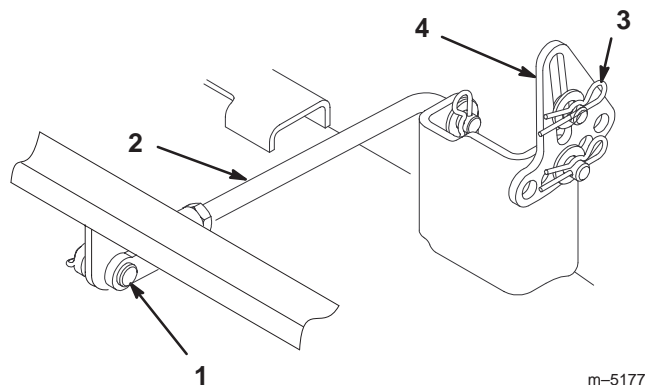

Figure 46
4. Remove the hairpin cotter and clevis pin from the rear trunion rod (Fig. 46) on each side of the mower.
5. Remove the hairpin cotter and washer at the mower leveling brackets (Fig. 46) on each side of the mower. Note which hole the leveling bracket is mounted in for future installation. Slide the brackets off of the mounting pin.
4. Attach the rear trunion rod to the tractor with the clevis pin and hairpin cotter (Fig. 46) on each side of the mower.
5. Slide the leveling brackets onto the mounting pins and secure them with the washers and hairpin cotters (Fig. 46).